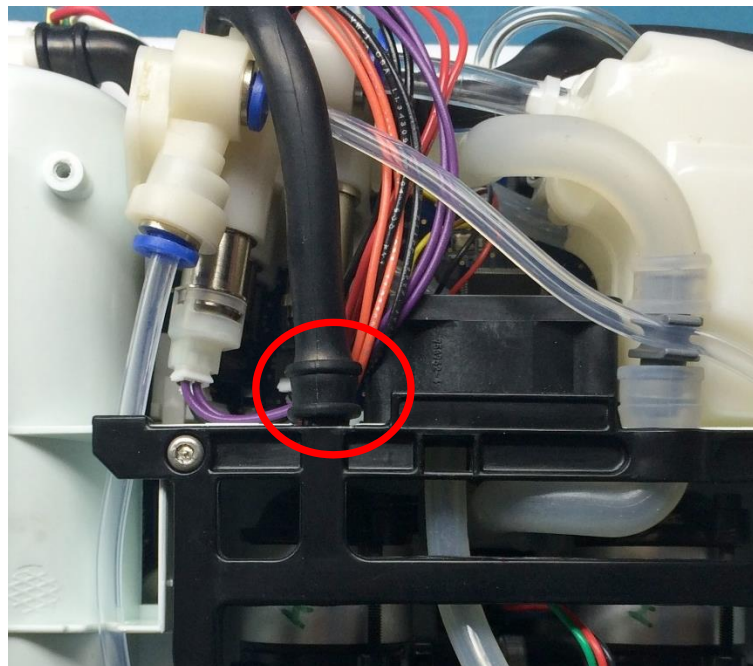

Figure 5: Exhaust Tube and Tube Bracket and Muffler Assembly
1. Remove the Exhaust Tube from the Tube Bracket and Muffler Assembly (Figure 5).